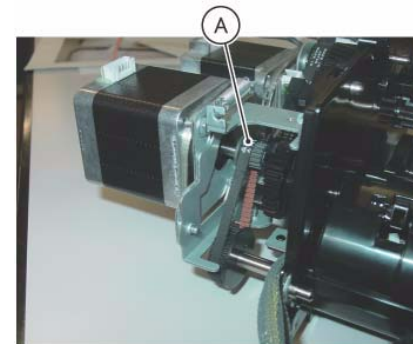

Figure 9 Install the Belt
2. Install the Belt (A) to the Pulley of the DADF Reg Motor. (Figure 9)
- (A) Belt